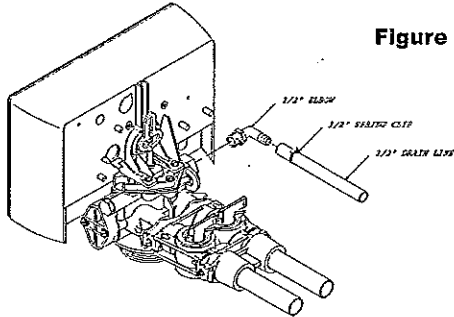

Figure 4
- Connect the drain line to the drain outlet on back of the valve, opposite the inlet connection (see figure 4). A fitting is required to